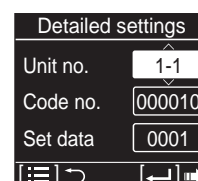

Fig. 4-12-2-4
- (4) Keep pressing the  button for 2 seconds or more during selecting "Code no.". (Fig. 4-12-2-5)